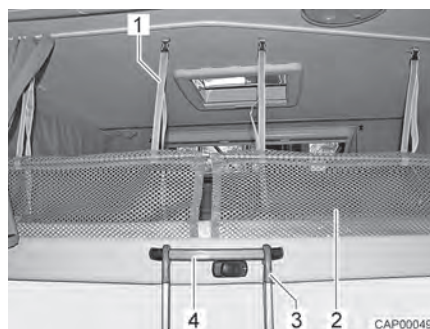

Fig. 75 Access ladder and safety net
- Hook the access ladder (Fig. 75,3) to the pull-down bed by attaching the two hooks to the curved handle (Fig. 75,4).
**Safety net** The safety nets (Fig. 75,2) with the retaining straps are stored under the mattress. Only use the safety nets if persons are already in the pull-down bed.
*Setting up:* ■ Fasten the retaining straps (Fig. 75,1) to the holders on the ceiling.